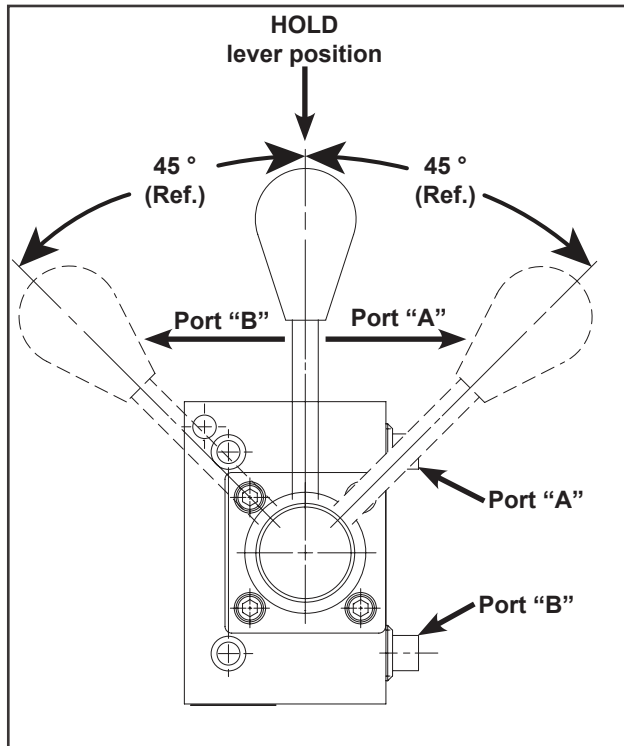

Figure 4
3. 3-Position, 4-Way Manual Valve used with Double-acting Cylinders (Figure 4)